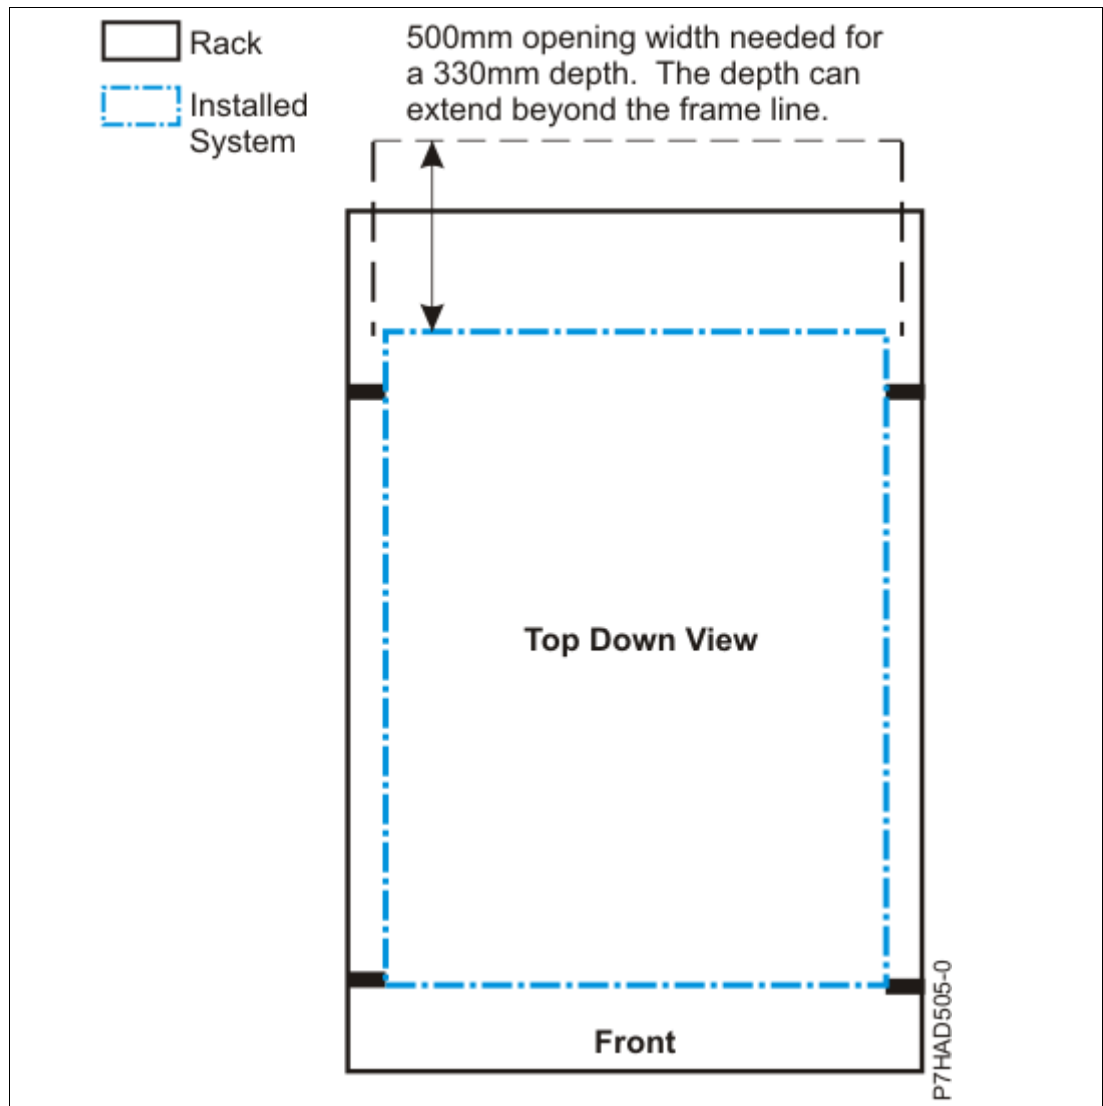

Figure 3-17 OEM rack opening depth
- A minimum rack opening width of 500 mm (19.69 in.) for a depth of 330 mm (12.99 in.) is needed behind the installed system for maintenance, service, and cable management. The recommended depth is at least 254 mm (10 in.) within the rack from the rear rack mount flange to the frame line, as shown in Figure 3-17.